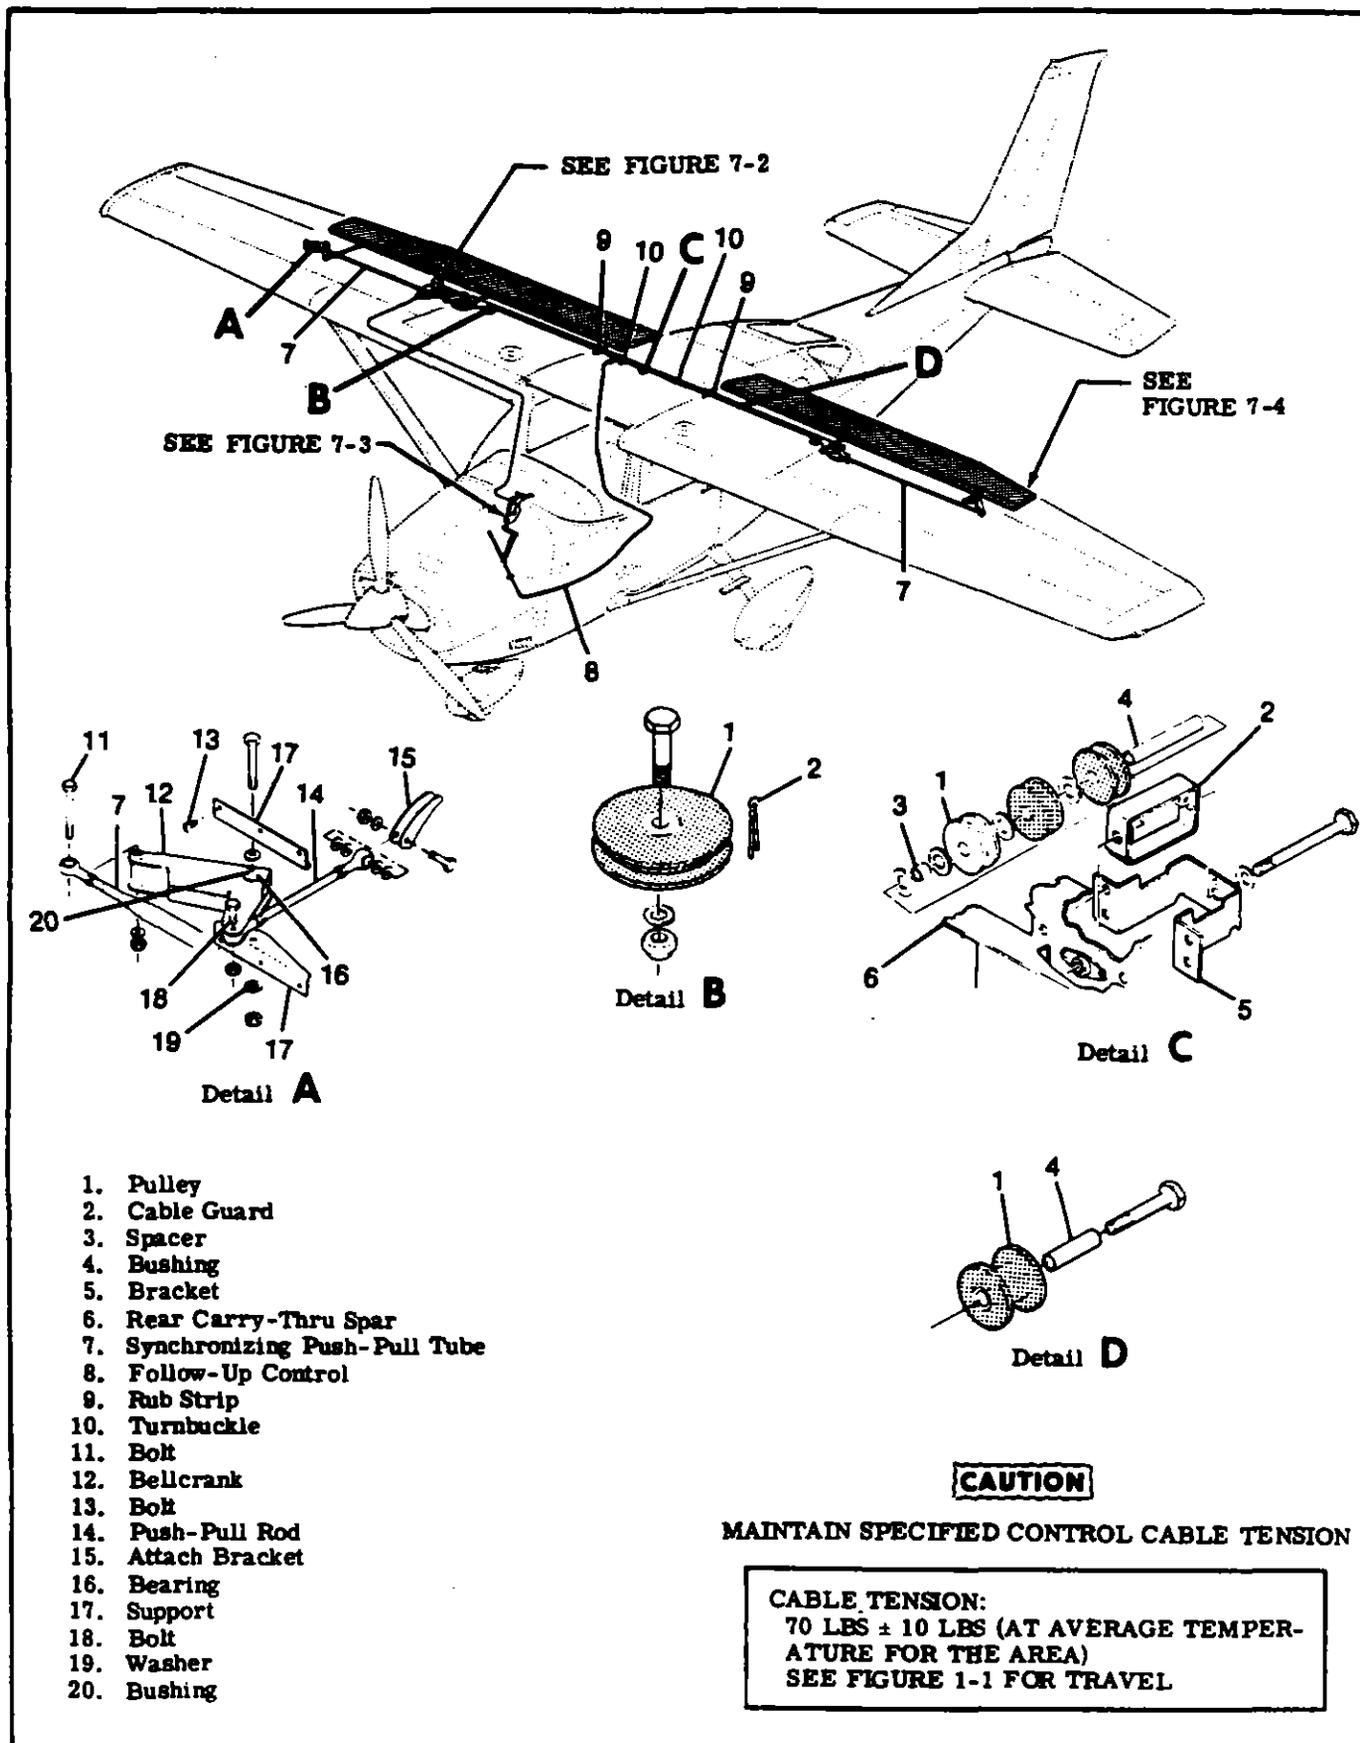

Figure 7-1. Wing Flap Control System
7-1. WING FLAP CONTROL SYSTEM. (See figure 7-1.)
- a. Remove access plates adjacent to drive pulley (20) in right wing.
- b. Unzip or remove headliner as necessary for access to turnbuckles (index 10, figure 7-1), remove safety wire and loosen turnbuckles.
- c. Remove bolt (14) securing flap push-pull rod (9) to drive pulley (8).
- d. Remove bolt (3) securing synchronizing push-pull tube (4) to drive pulley (8) and lower RIGHT flap gently.
- e. Remove bolt (15) securing actuating tube (16) to drive pulley (8) and lower LEFT flap gently. Retain bushing.
- f. Remove cable locks (7) securing control cables to drive pulley (8). Tag cables for reference on reinstallation.
- g. Remove bolt (6) attaching drive pulley (8) to wing structure.
7-13. BELLCRANKS. (See figure 7-1.)
7-19. CABLES AND PULLEYS. (See figure 7-1.)
- a. Unzip or remove headliner as necessary for access to turnbuckles (index 10, figure 7-1).
- c. Remove bolt (14) securing flap push-pull rod (9) to drive pulleys (8) in both wings.
- d. Remove bolt (3) securing synchronizing push-pull tube (4) to drive pulley (8) in right wing and carefully lower RIGHT flap.
- g. Disconnect actuating tube (16) from drive pulley (8).
- p. Connect control cables at turnbuckles (index 10, figure 7-1). Adjust turnbuckles to position left drive pulley so that the centerline of bolt hole for the inboard push-pull rod attachment is 4.20 inches aft of fuel well bulkhead while maintaining the similar 4.20 inches in the RIGHT wing, and maintaining 70±10 pounds cable tension. Adjust retract cable first.